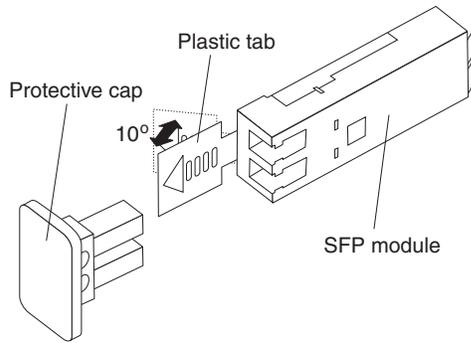

Figure 22. Unlocking the SFP module latch - plastic variety
- For SFP modules containing plastic tabs, unlock the SFP module latch by pulling the plastic tab outward 10°, as shown in Figure 22 on page 36.